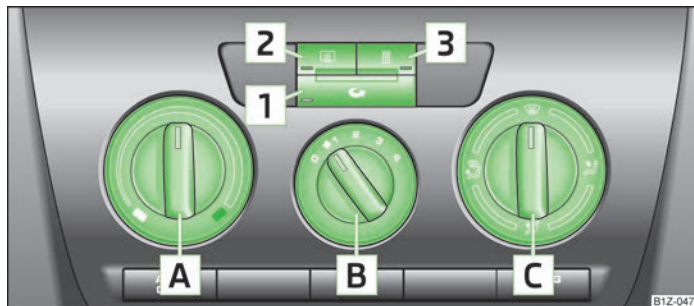

Fig. 88 Heating: Control elements
- Turn the control dial **A** » Fig. 88 to the right to increase the temperature.
- Turn the blower switch **B** » Fig. 88 into one of the positions, 1 to 4, to switch the blower on.
- The direction of the inlet air flow is controlled with air distribution regulator **C** » Fig. 88 » page 80.
- Press the button **Z** » Fig. 88. Further information » page 47.
- Press the button **3** » Fig. 88 to directly switch on/off the auxiliary heating (auxiliary heating and ventilation). Further information » page 87.
All controls apart from the blower switch **B** » Fig. 88 can be set to any desired intermediate position.
- Controls **A** » Fig. 88 on page 80, **B**, **C** and the button **1**.
- Press the button **1** » Fig. 88 on page 80 and the warning light in the button illuminates.
- Press the button **1** » Fig. 88 on page 80 again - the warning light in the button goes out.
Recirculated air mode is switched off automatically if the air distribution control **C** » Fig. 88 on page 80 is in position . Recirculated air mode can be switched on again from this setting by repeatedly pressing the button **1**.